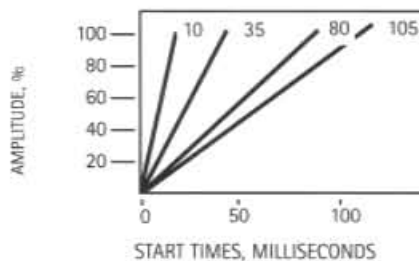

Figure 6. Selectable Start Rates
- **Selectable Starting Rates** - Dipswitch selectable start rates - 10, 35, 80, 105 milliseconds, to accommodate starting characteristics of a wide variety (range) of horns. (Figure 6.)